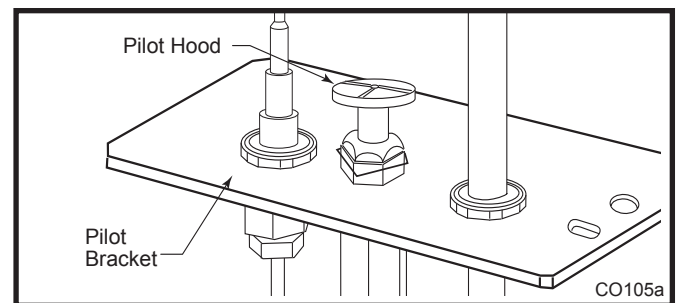

Fig. 58 Remove pilot hood.
- Remove pilot hood by lifting up. (Fig. 58) Do not remove the snap ring to remove the pilot hood.